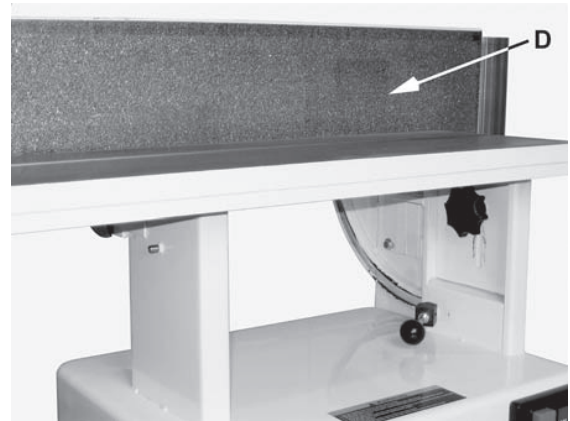

Fig. 4
4. The sanding platen (A) is presently in the horizontal position. Pull lock handle (B) forward to unlock the platen assembly.
5. Tilt sanding platen to the vertical position (C), which will look like D in Fig. 4; then push the lock handle (B) to lock the platen assembly in place.